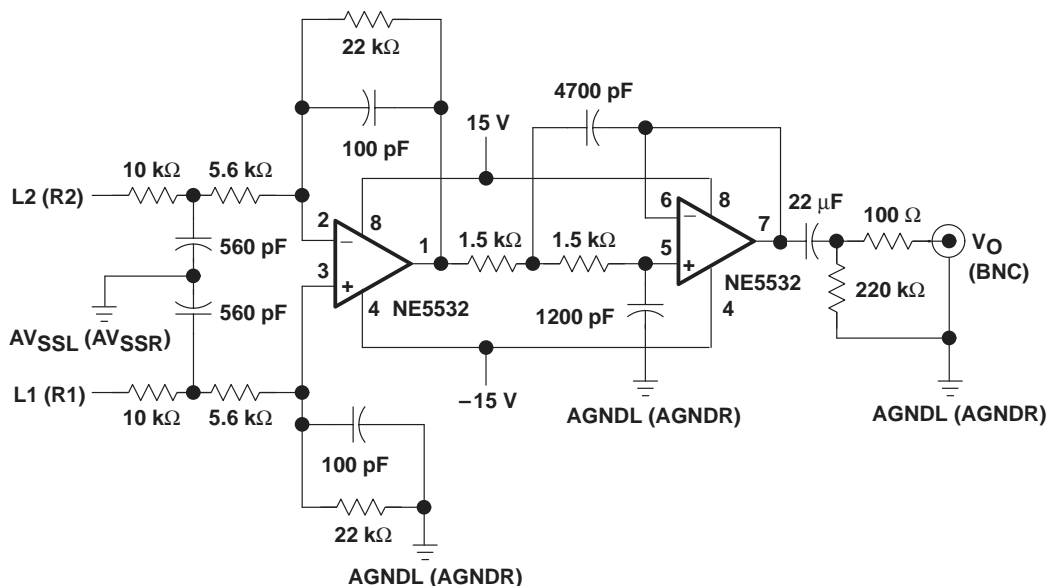

Figure 7. Analog Low-Pass Filter Recommended for Measuring the Dynamic Specifications of the TMS57014A
‡  $f_O$  is the output frequency at the low-pass filter output ( $V_O$ ) shown in Figure 7.
Each DAC left and right output consists of 15 levels of PWM and provides a differential signal as the input to two external differential amplifiers configured as a low-pass filter to produce the left and right audio outputs (see Figure 7).
NOTE 5: These specifications are measured at the output (VO) of the low-pass filter shown in Figure 7.